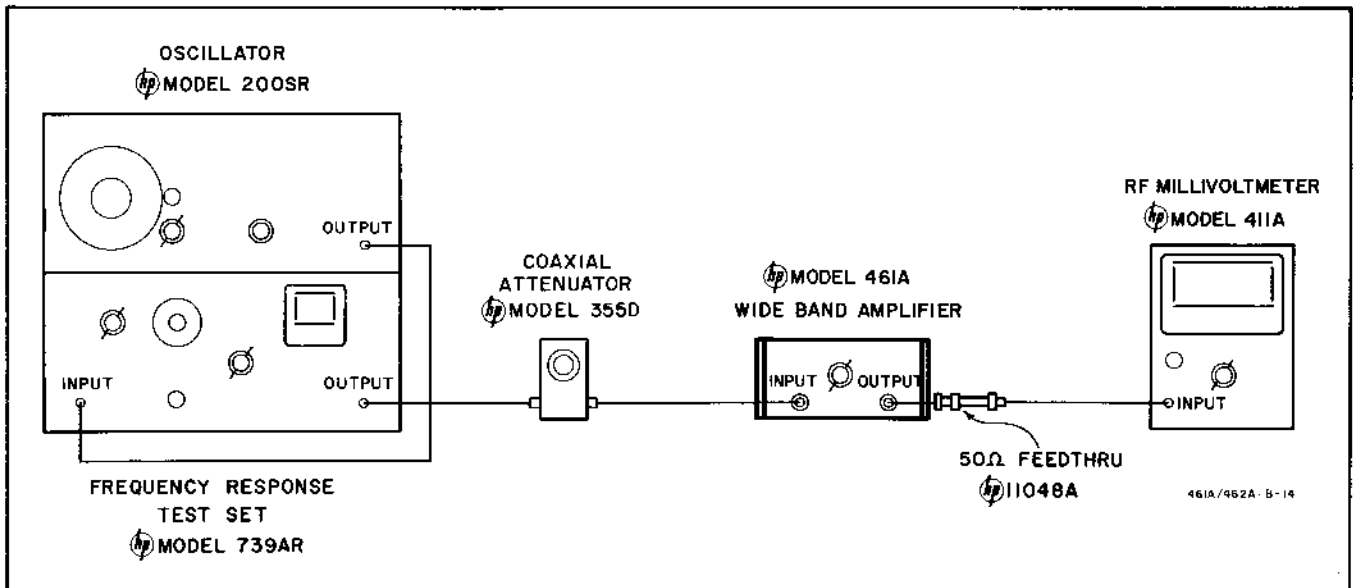

Figure 5-3. Low Frequency Response Check
- a. Connect the Model 461A as shown in Figure 5-3.
- b. Set the attenuator to 40 db and set the 461A GAIN (DB) to 40 db.